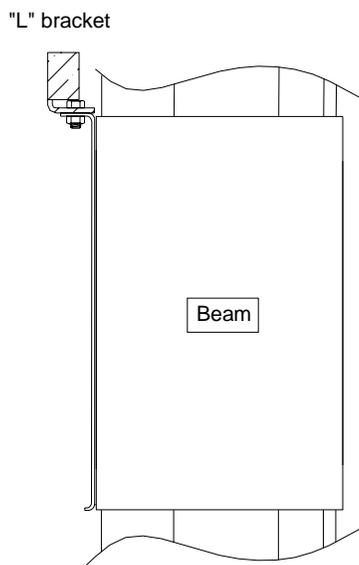

FIGURE 4
16. If rear mounting the camera beam an extra bracket is required. An "L" bracket must be mounted on top of the carrier on the back side of the lift. Secure the bracket to the back of the carrier using two 1/4"-20 x 1" HHCS and related hardware. See **Figure 4**.